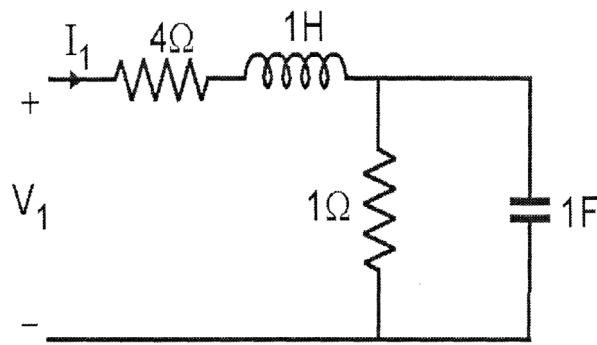

Fig. No.6
- Q7) a)** Draw pole-zero plot of the driving point impedance of the network shown in Fig. No.6. [9]